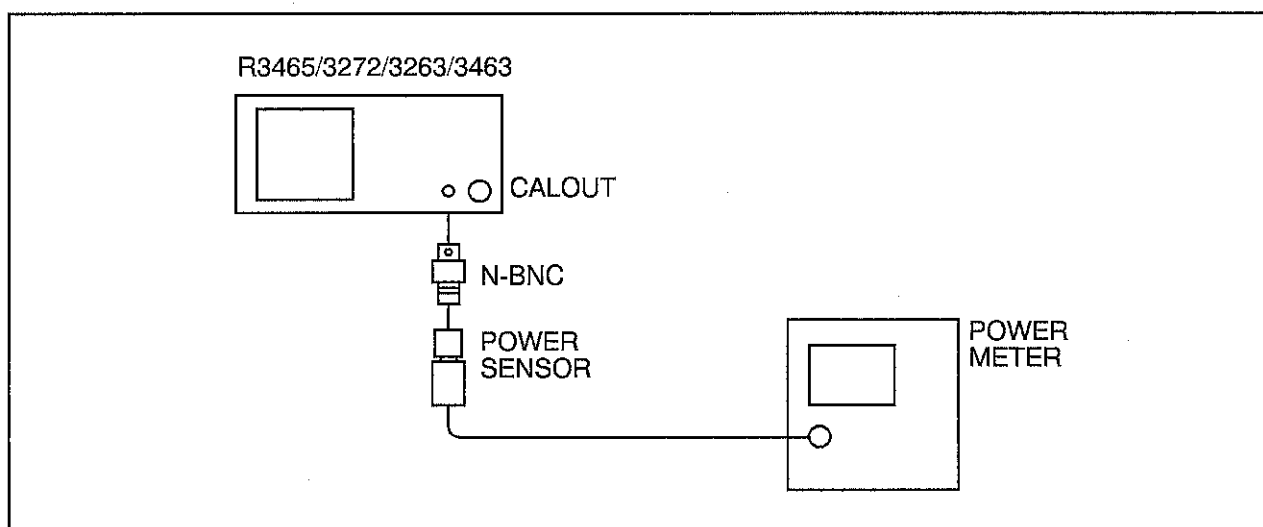

Figure 1-17 Calibration Amplitude Accuracy Test Setup
- (1) Connect the equipment as shown in Figure 1-17.
- (2) Press the power sensor zero of the power meter and calibrate the power sensor. Enter the power sensor's 30 MHz calibration factor into the power meter.
- (3) Connect the power sensor via an N(f) – BNC(m) adapter directly to the CALOUT connector. Read the power meter display. The power level should be within the following limits ( $\pm 0.3 \text{ dB}$ ):